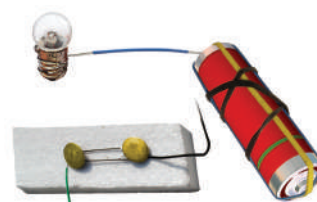

Fig. 12.14
4. Complete the drawing shown in Fig 12.14 to indicate where the free ends of the two wires should be joined to make the bulb glow.
6. Would the bulb glow after completing the circuit shown in Fig. 12.14 if instead of safety pin we use an eraser?